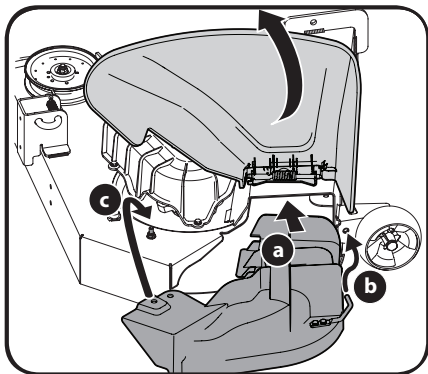

Figure 1-4
2. To install the mulch plug, pivot the discharge chute upward. Refer to Figure 1-4. Insert the mulch plug into the discharge chute opening.